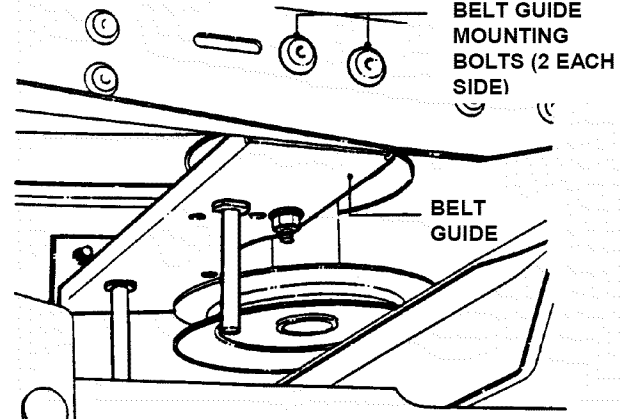

FIGURE 4.32
1. Remove two belt guide mounting bolts from each side of tractor frame. See Figure 4.32.